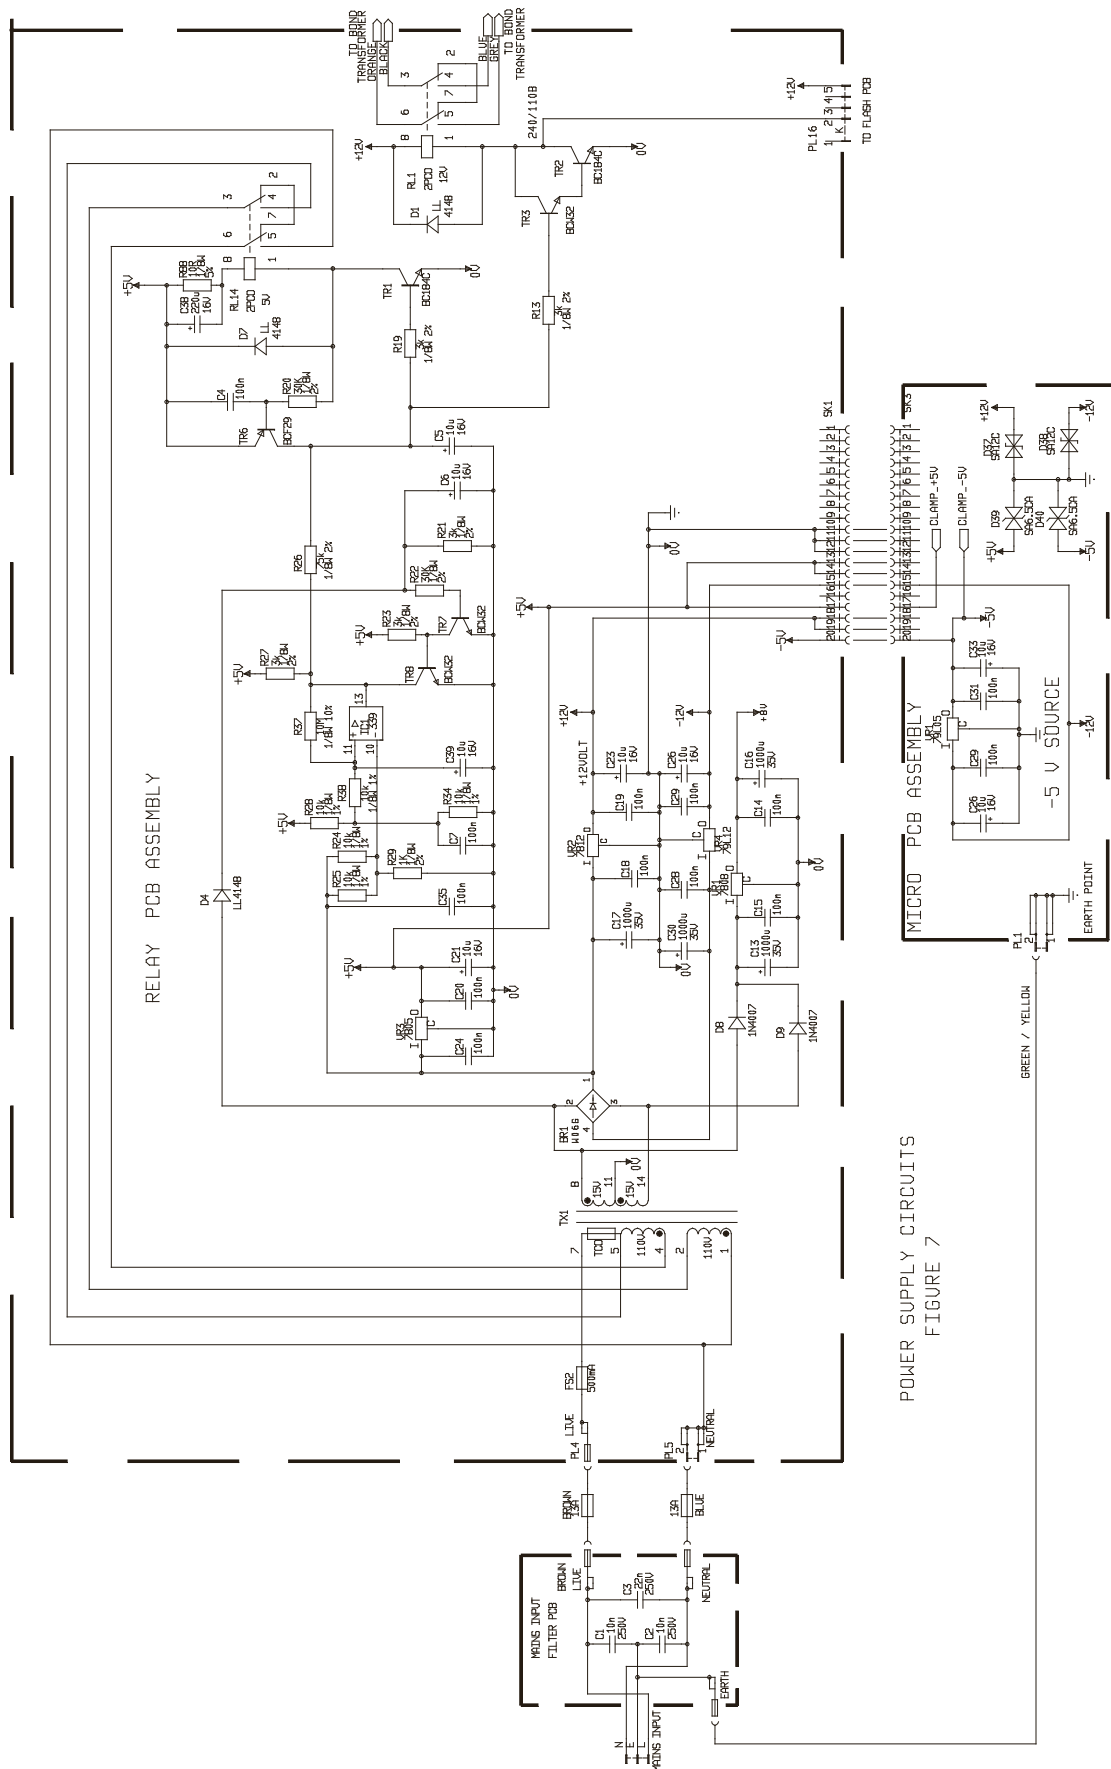

Figure 7
Reference should be made to **Figure 7**.
Load current to either PAT4DVF Appliance test socket is measured using Current Transformer CT1. The Live conductors being "looped" through the CT allow the load current to be detected without requiring a current shunt. The CT signal is transferred to the PAT4DVF "Microprocessor PCB" via PL4 (Black wires on later instruments). The current transformer is terminated using resistors R1 & R3, which convert the CT output to a voltage. This voltage is fed to Multiplexer channel (01), which as shown on *figure 7*. is connected to IC19 pin 14.